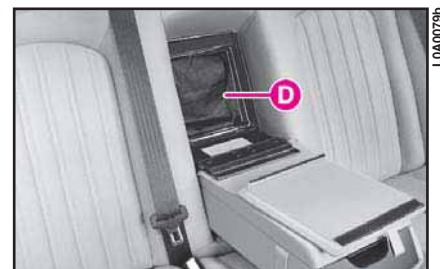

fig. 207
4) Take protection **D** (fig. 207) out and lay it on the armrest.